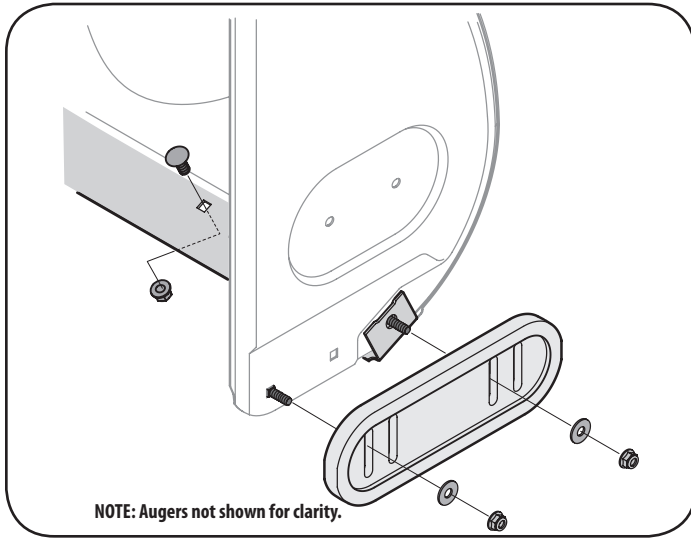

Figure 59
2. Reassemble new shave plate, making sure heads of carriage bolts are to the inside of housing. Tighten securely. See Figure 59.